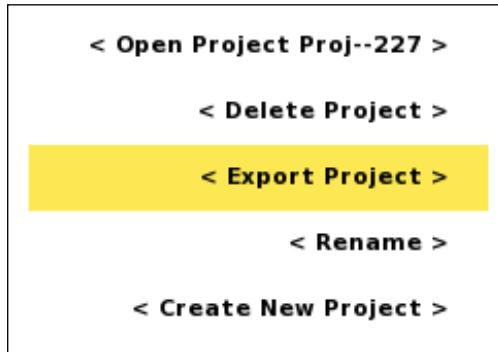

Figure 93 Project options menu
- Highlight <Export Project> (Figure 93)